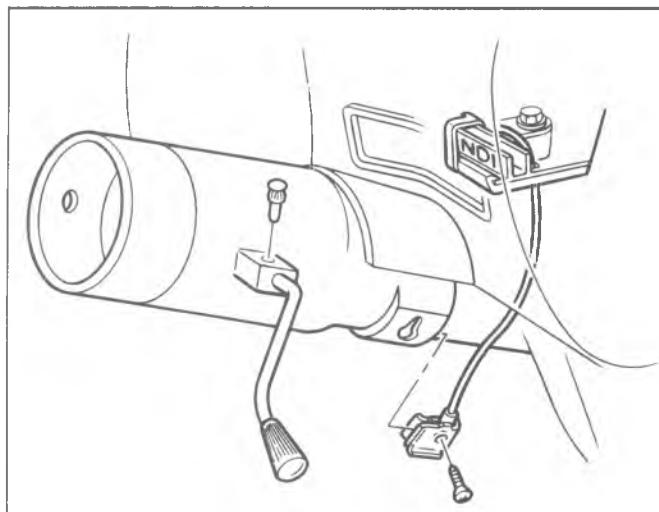

Fig. 61—Automatic Transmission Indicator Connection (Typical)
8. Remove the transmission indicator cable, if so equipped (fig. 61).